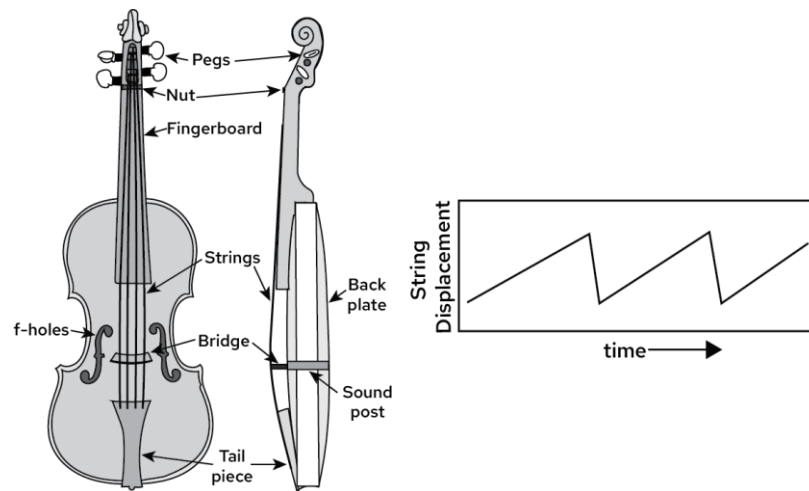

Figure 8. Parts of a violin and saw-tooth motion of bowed string
- A violin body has elegantly shaped holes to the left and right of the strings called F-holes (Fig. 8). One might wonder if they serve a purpose or if they are purely decorative.